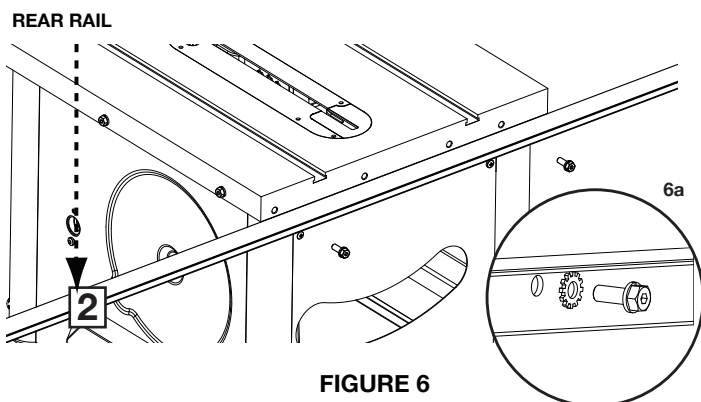

FIGURE 6
2. Attach the rear rail (2) to the table back using two (5/16-18 x 7/8") flat head screws w/ spring washer. (Fig. 6) One (5/16") flat star grounding washer should be installed directly in front of one of the screw heads. (Fig. 6a)